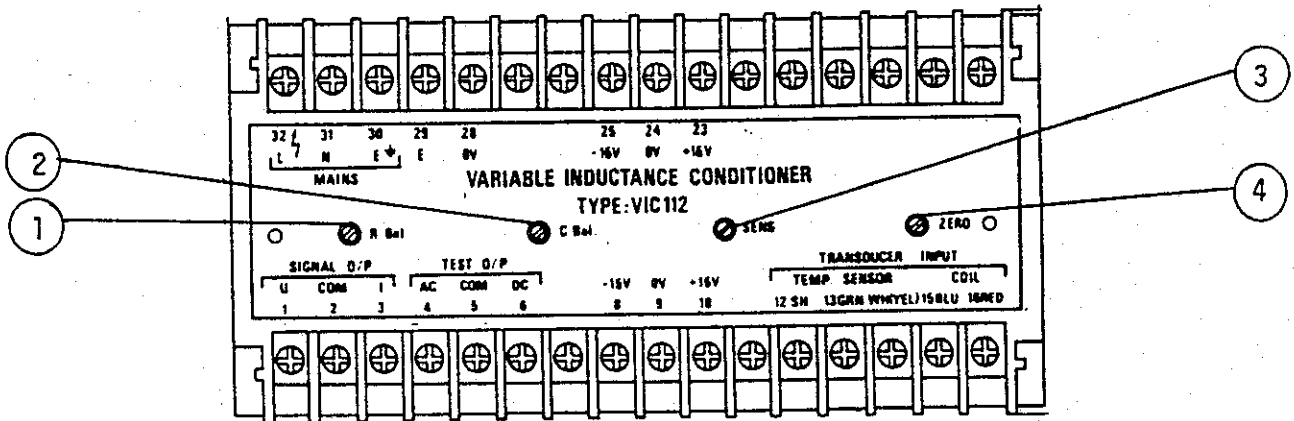

Fig. 7 (front view)
- Adjust with potentiometers R balance and C balance (① and ② in figure 7) the lowest possible voltage on terminal 4 (AC test)
- Adjust with potentiometer C balance (② in figure 7) the voltage of DC test to 0 V
- Adjust voltage (U O/P) to 0 V with potentiometer ZÉRO (④ of figure 7)
- Adjust output voltage to 0 V with potentiometer SENS (③ of figure 7)
- Adjust output voltage to +10 V with potentiometer ZERO (④ of fig. 7)